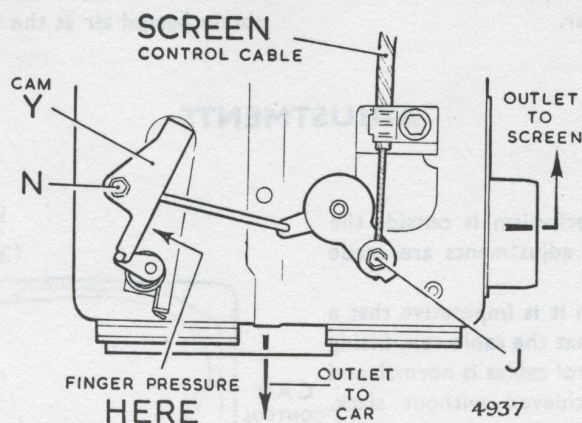

Fig. 7. Screen control and air outlet valve adjustment details
2. "SCREEN" Control (See Fig. 7)